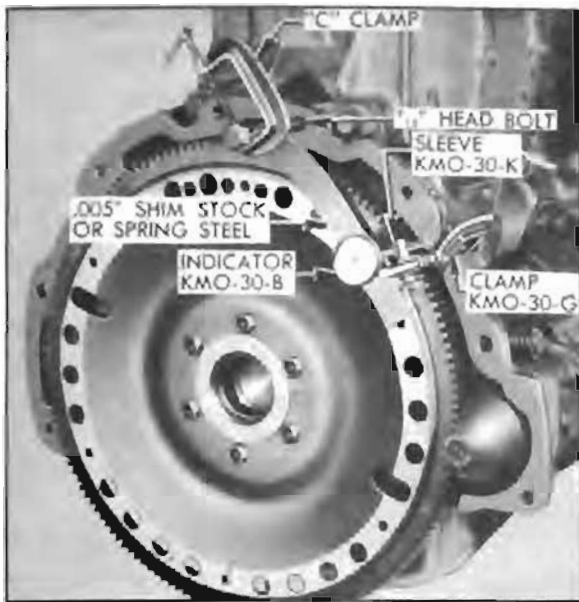

Figure 2-49—Checking Runout of Flywheel Face
5. Install one $\frac{7}{16}$ " cylinder head bolt in upper hole in flywheel housing. Clamp a strip of .005" shim stock or spring steel to the bolt so that free end bears against face of flywheel so as to cover the holes and provide a smooth indicating surface. See figure 2-49.
6. Attach Clamp KMO-30-G to flange of flywheel housing and use Sleeve KMO-30-K to mount Dial Indicator KMO-30-B to bear against the strip where it contacts flywheel face. See figure 2-49.